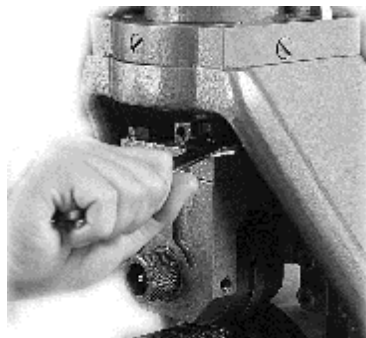

Fig.10
10..For the replacement of pinch roller, you shall return the pinch roller holder to the highest position and remove the tighten screws (**Fig.15**),before pulling out the pinch roller shaft while holding the roller with your hand, install new pinch roller. For the relocating of pinch roller, you shall loosen 2 hexagonal bolts (**Fig.16**) on the slide and turn the adjustment bolts to move the pinch roller forward/backward. Refer to (**See Fig.10、 Fig.11、 Fig 13**) for specific location requirements. Followed by tightening the 2 hexagonal bolts on the pinch roller holder.